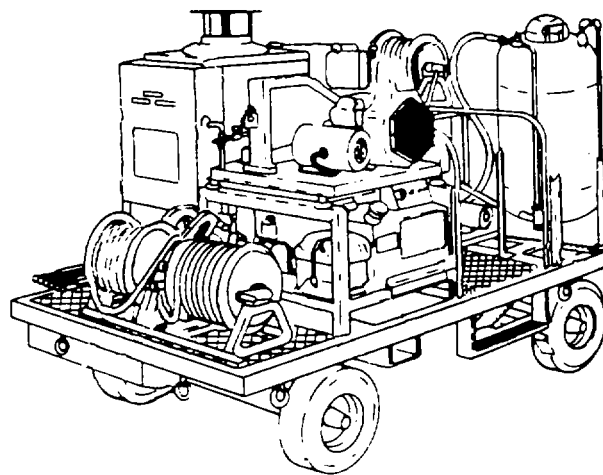

Figure 9-23. Portable Power Supply
f. *Portable Power Supply.* The portable power supply, shown in figure 9-23, is commonly called an inverter. The unit produces ac power output from dc power input and is approximately 12 inches long, 8 1/2 inches wide, and 4 1/4 inches high. It functions in a temperature range of -65 to +1 60°F (-54 to +7°C).